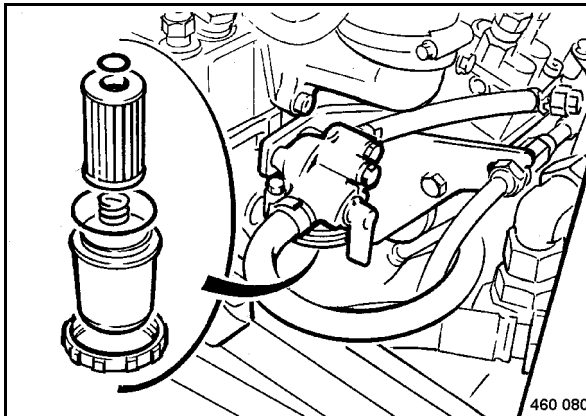

Fig. 113
- Unscrew the filter bowl (Fig. 113).